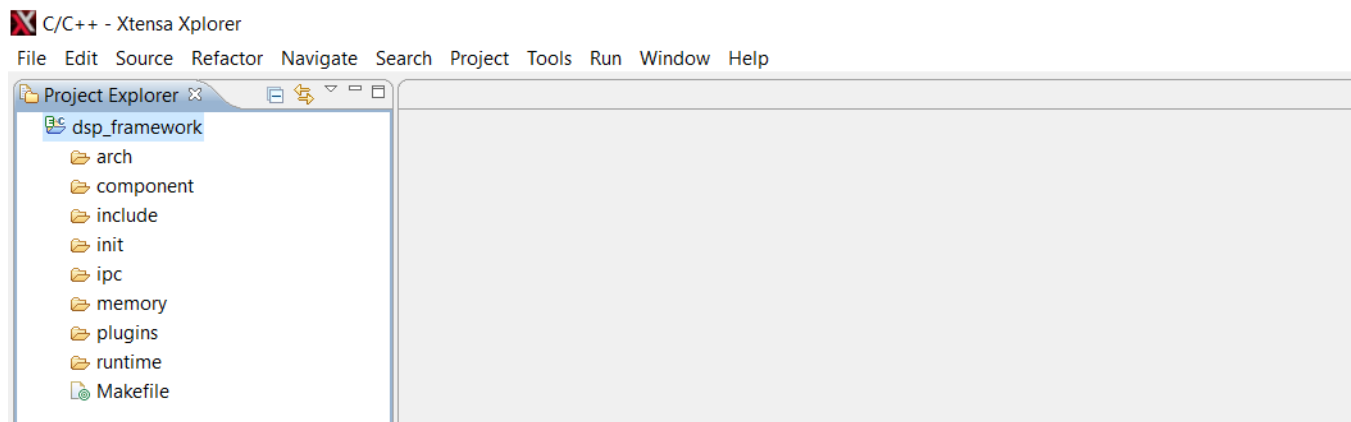

Figure 7. DSP framework project
- Right-click the name of the DSP framework project in the “Project Explorer” panel and choose the “Build Properties...” option. You will see the “Build Properties for dsp_framework” dialog. The dialog is shown in Figure 7.